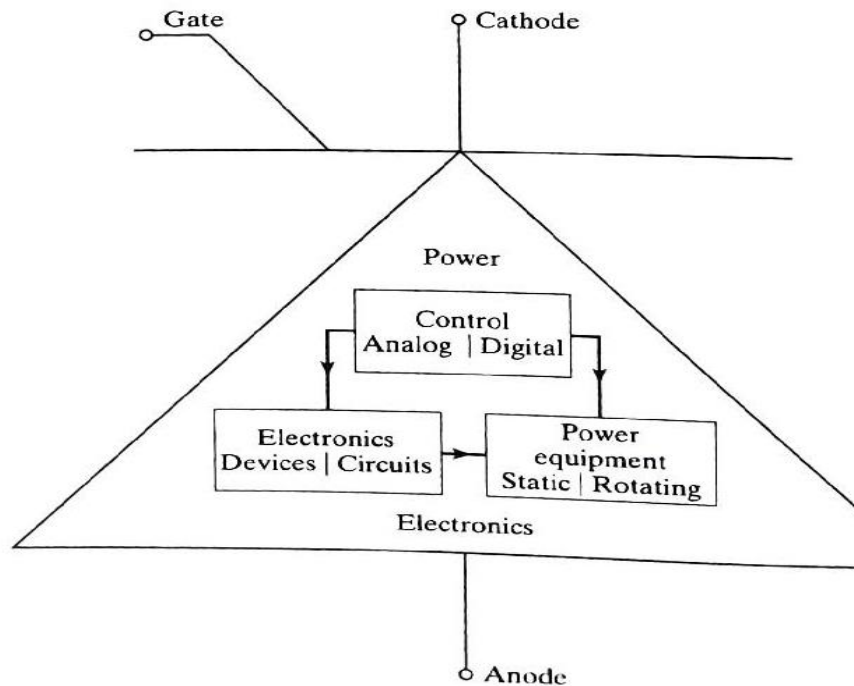

FIGURE 1.1
- The interrelationship of power electronics with power, electronics, and control is shown in Figure 1.1.